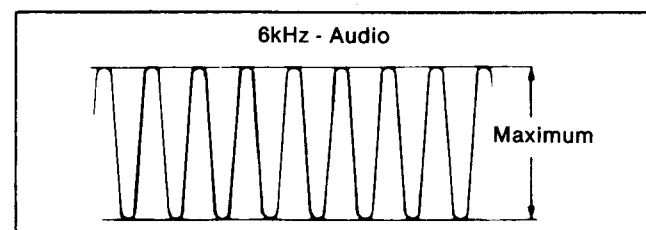
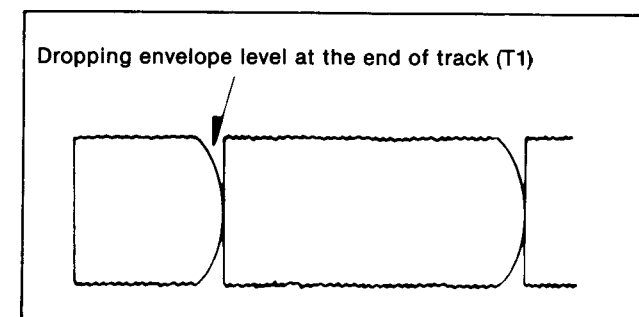
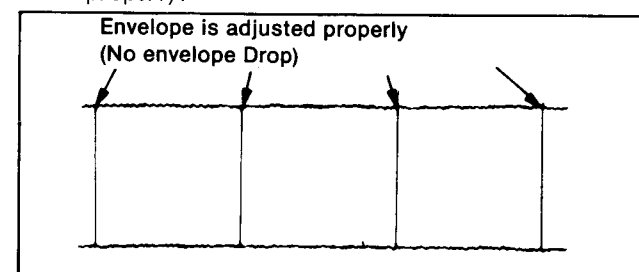

Fig. M22
Fig. M27
Fig. M28
- When the scope display is as shown in Fig. M22, adjust the height of S2 so that the waveform looks like Fig. M28.
- When the scope display is as shown in Fig. M27, adjust the height of T1 so that the waveform looks like Fig. M28.
- The scope display should appear as shown in Fig. M28 when S2 and T1 Posts are adjusted properly.